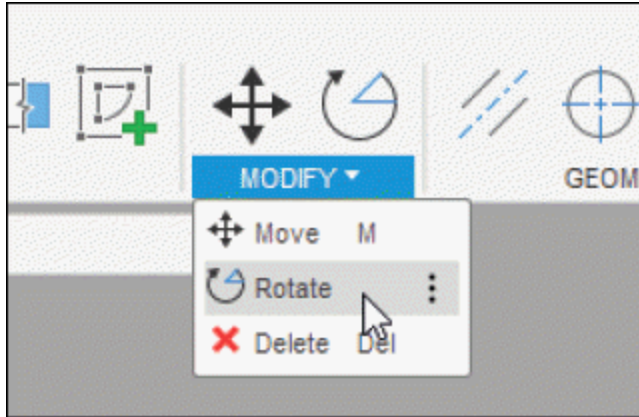
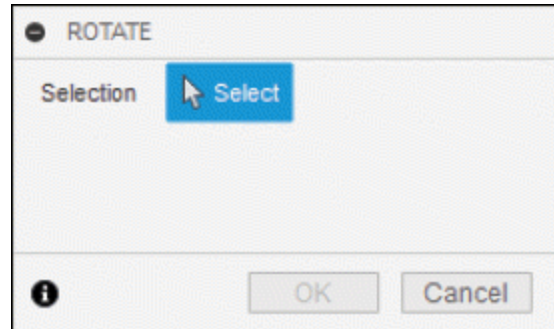

Figure-36. Rotate tool
Figure-37. ROTATE dialog box
- Click on the **Rotate** tool from **MODIFY** panel; refer to Figure-36. The **ROTATE** dialog box will be displayed; refer to Figure-37.